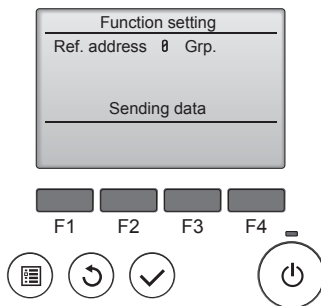
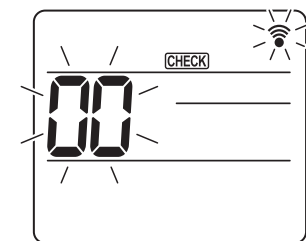
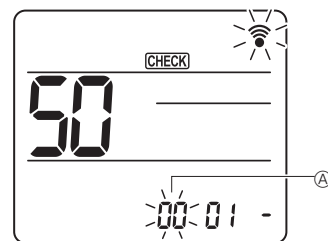
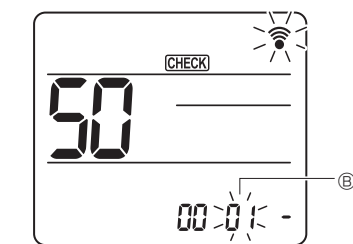

Fig. 6-15
Fig. 6-16
Fig. 6-17
Fig. 6-18
- ⑤ (Fig. 6-15)
- ① Going to the function select mode
- Press the [MENU] button between of 5 seconds. (Start this operation from the status of remote controller display turned off.) [CHECK] is lighted and "00" blinks. (Fig. 6-16)
- ② Setting the unit number
- Press the [DOWN] button to set unit number ①. (Fig. 6-17)
- ③ Select a mode
- Press the [DOWN] button to set Mode number ②. (Fig. 6-18)